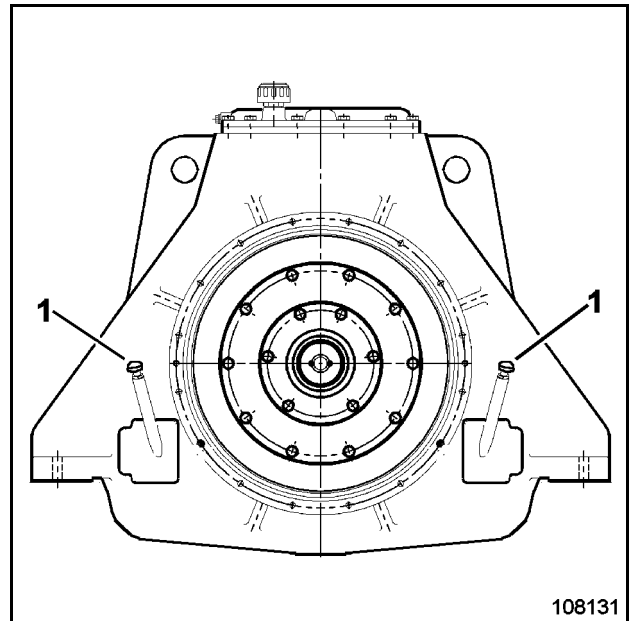
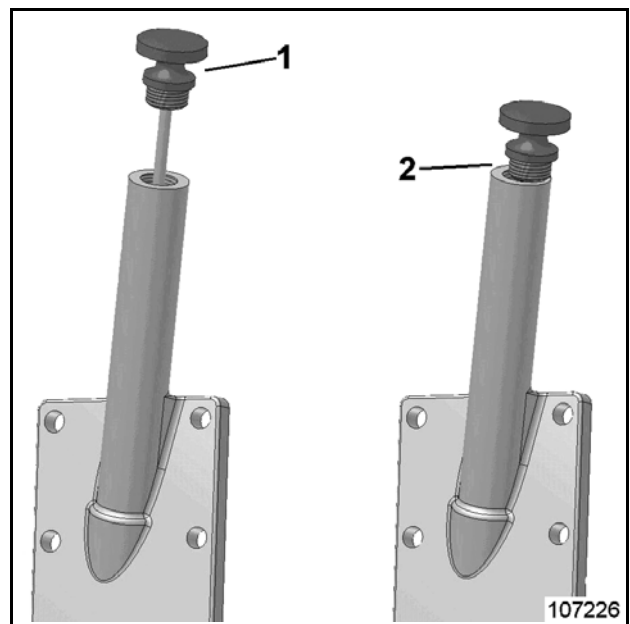

Fig. 3-113:
Fig. 3-114:
- Unscrew dipstick (1, Fig. 3-113: and Fig. 3-114:) and wipe.
- Insert dipstick until the thread reaches the top of dipstick's tube, do not screw in (2, Fig. 3-114:).